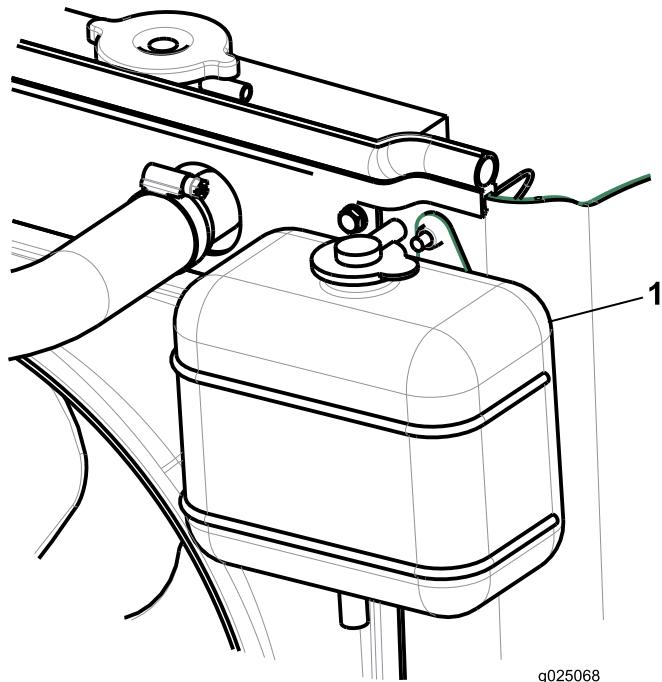

Figure 26
2. Check the level of the coolant in the expansion tank (Figure 26).